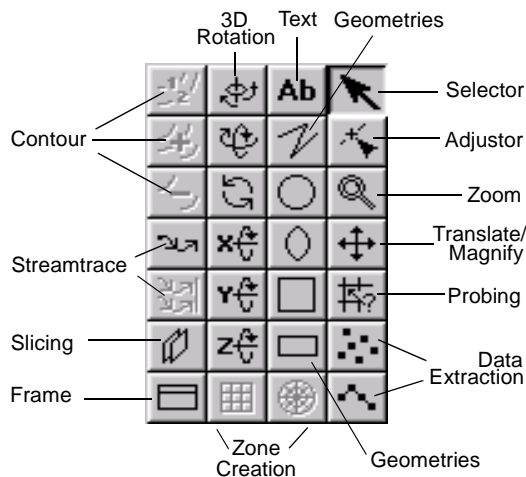

Figure 2-8. Sidebar tools and mouse modes.
2.2.2.8. The Tool Buttons. Each of the tools represented by a button is a mouse mode, which specifies the behavior of the mouse pointer anywhere in the workspace. There are 28 modes, which fall into the following 12 categories, as shown in Figure 2-8: